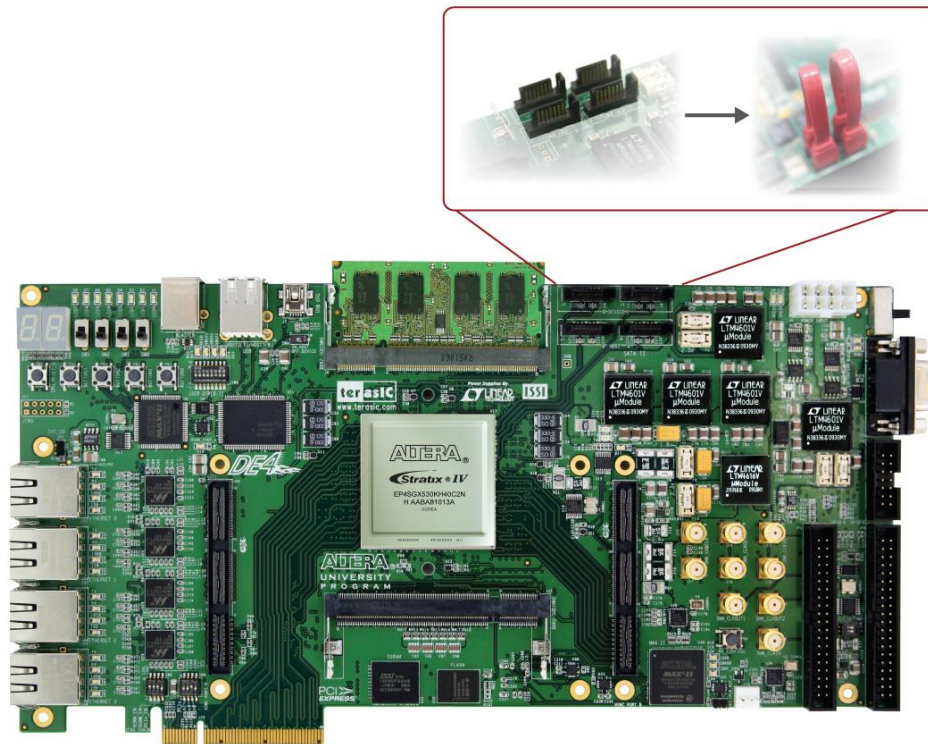

Figure 5-40 Serial ATA loopback design setup
- Make sure a SATA cable (provided in the DE4 package) is connected between SATA-host-A and SATA-device-A. Similarly a SATA cable is connected between SATA-host-B and SATA-device-B as shown in **Figure 5-40**.